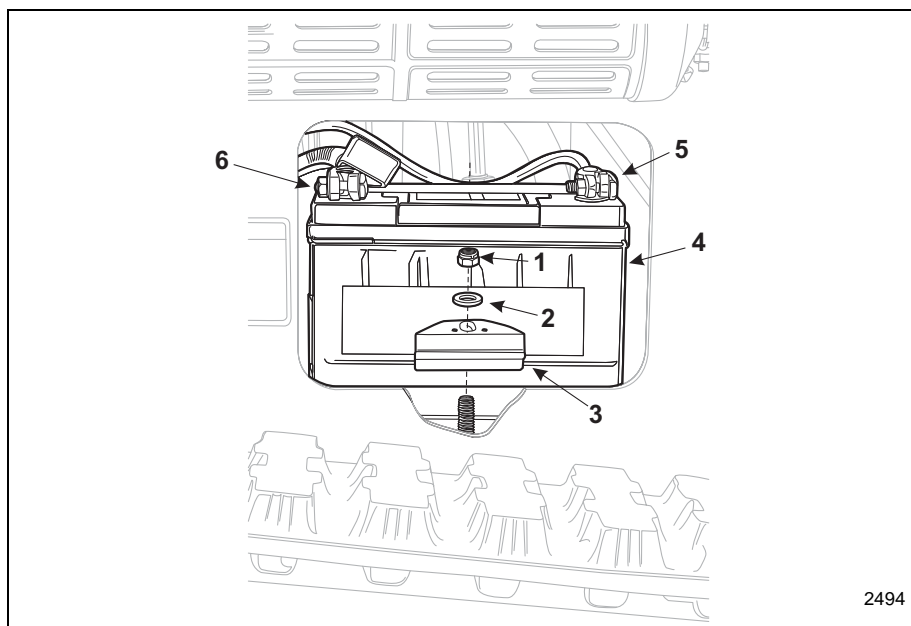

Figure 4-17 Battery and Cable Connections
2. Check the battery (Item 4, Figure 4-17) and cable connections (Items 5 and 6, Figure 4-17) for signs of leaking, corrosion or damage.
Make sure that the battery clamp (Item 3, Figure 4-17) is securely holding the battery in position. If needed, tighten the lock nut (Item 1, Figure 4-17) to secure the battery.